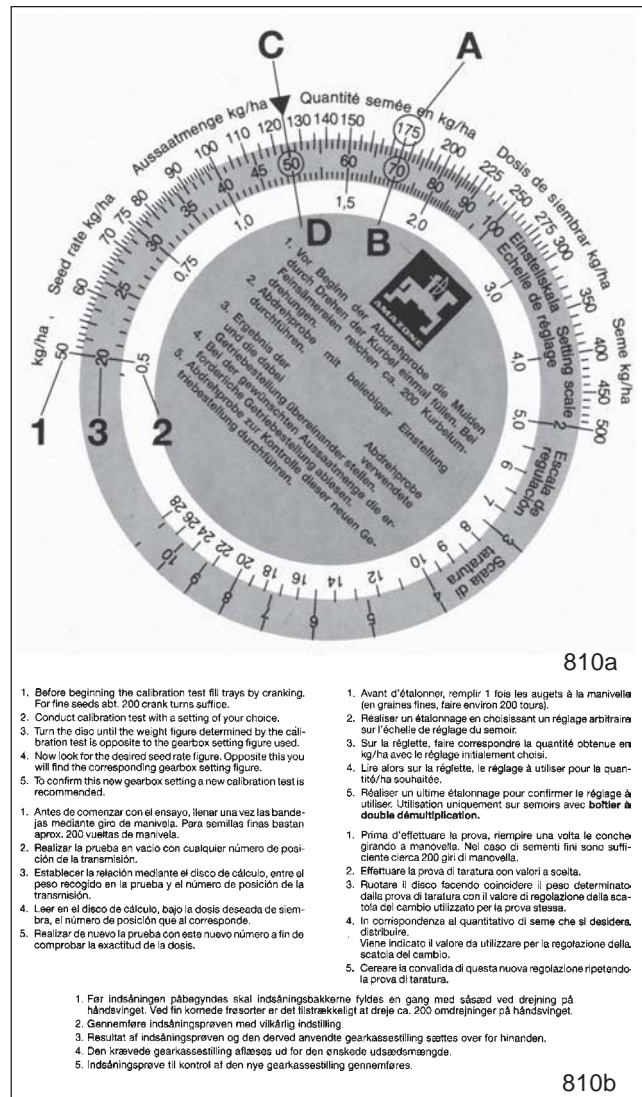

Fig. 10.13
The disc rule consists of three scales: an outer white scale (Fig. 10.13/1) for all seed rates above 30 kg/ha and an inner white scale (Fig. 10.13/2) for all seed rates of less than 30 kg/ha. On the centre coloured scale (Fig. 10.13/3) the gearbox settings from „1 to 100“ are indicated.
- Align the seed rate 1765 kg/ha (Fig. 10.13/A) and the gearbox setting figure „70“ (Fig. 10.13/B) on the disc rule.
- Now read off the disc rule the gearbox setting figure for the desired seed rate of 125 kg/ha (Fig. 10.13/C). In our example that is the gearbox setting figure „50“ (Fig. 10.13/D).